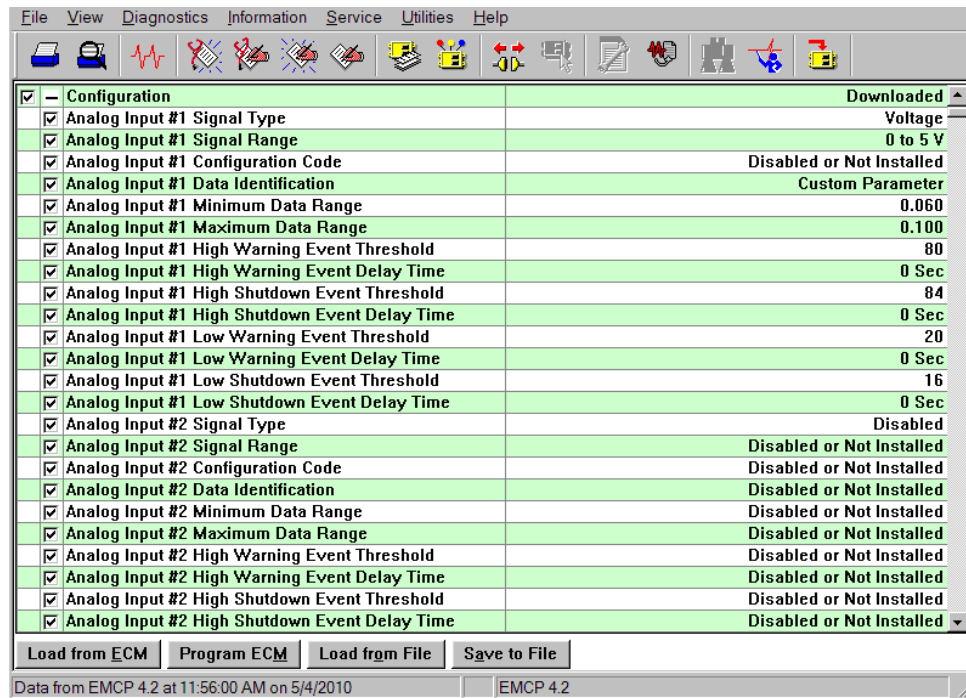

Figure 35: ECM Replacement File Parameters
5. The replacement file parameters will be shown. See Figure 35.